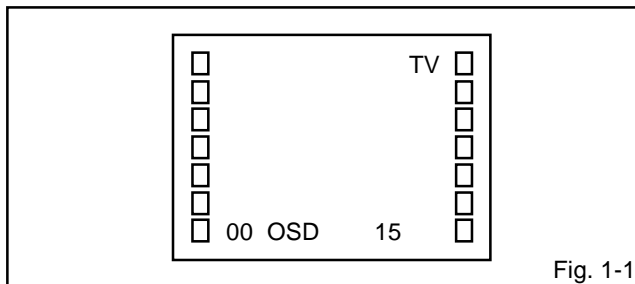

Fig. 1-1
Press the VOL. DOWN button on the set and the Channel button (9) on the remote control for more than 1 second to appear the adjustment mode on the screen as shown in Fig. 1-1.
4. Activate the adjustment mode display of Fig. 1-1 and press the channel button (02) on the remote control to select "RF AGC DELAY".
3. Activate the adjustment mode display of Fig. 1-1 and press the channel button (01) on the remote control to select "CUT OFF".